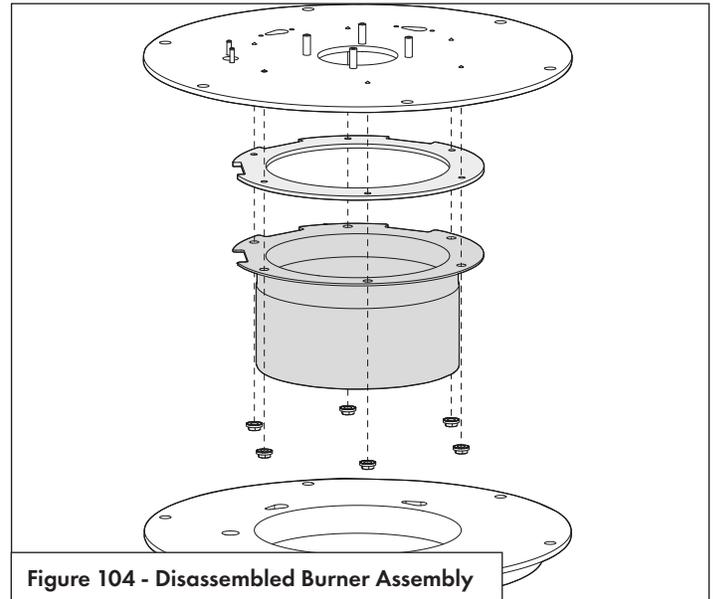

Figure 104 - Disassembled Burner Assembly
- Reassemble the burner assembly. Ensure the components are installed as described in Figure 104.